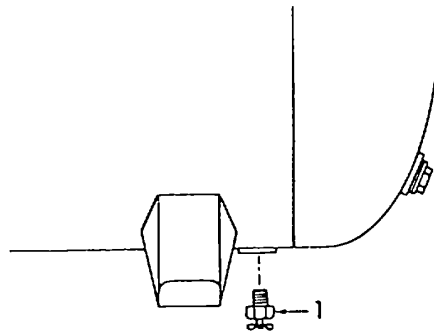

Figure 3-35. Drain Cock, Removal.
- a. *Removal.* Unscrew and remove drain cock (1, Figure 3-35).